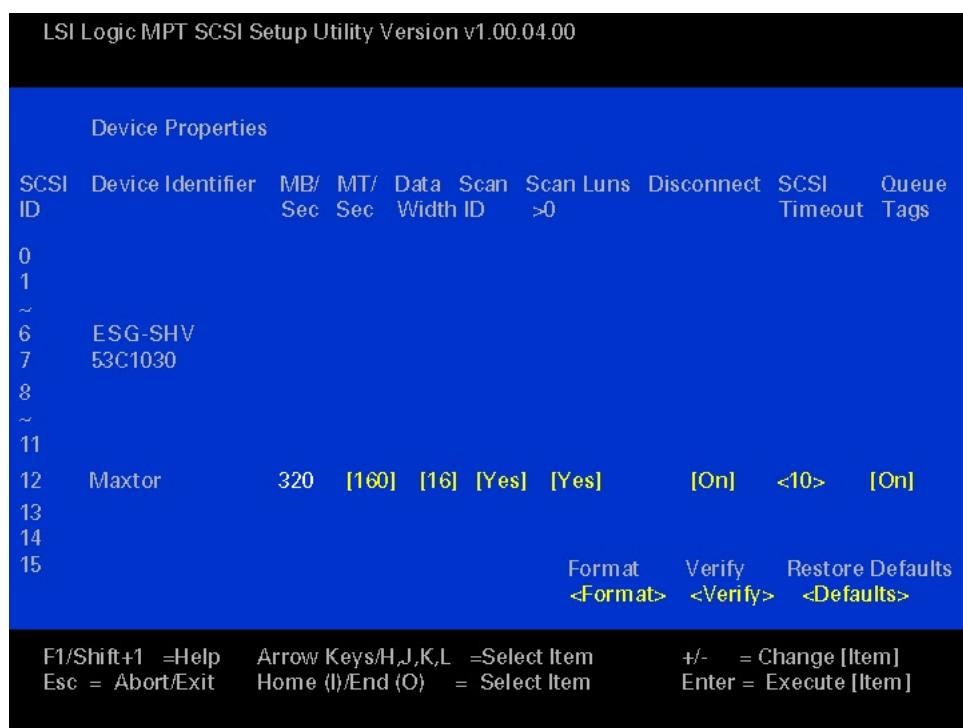

Figure 23. LSI SCSI Device Properties Screen
5. Use the arrow keys to highlight Device Properties; press <Enter> to view and change the device properties. As shown by Figure 23, the screen displayed shows a list of devices found on the internal channel. Information includes the SCSI IDs and associated settings.